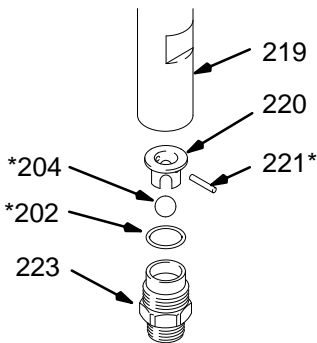

Fig. 14 03801
1. Remove the intake valve (223), o-ring (202), ball guide (220), stop pin (221) and ball (204). Clean the parts. See Fig. 14.